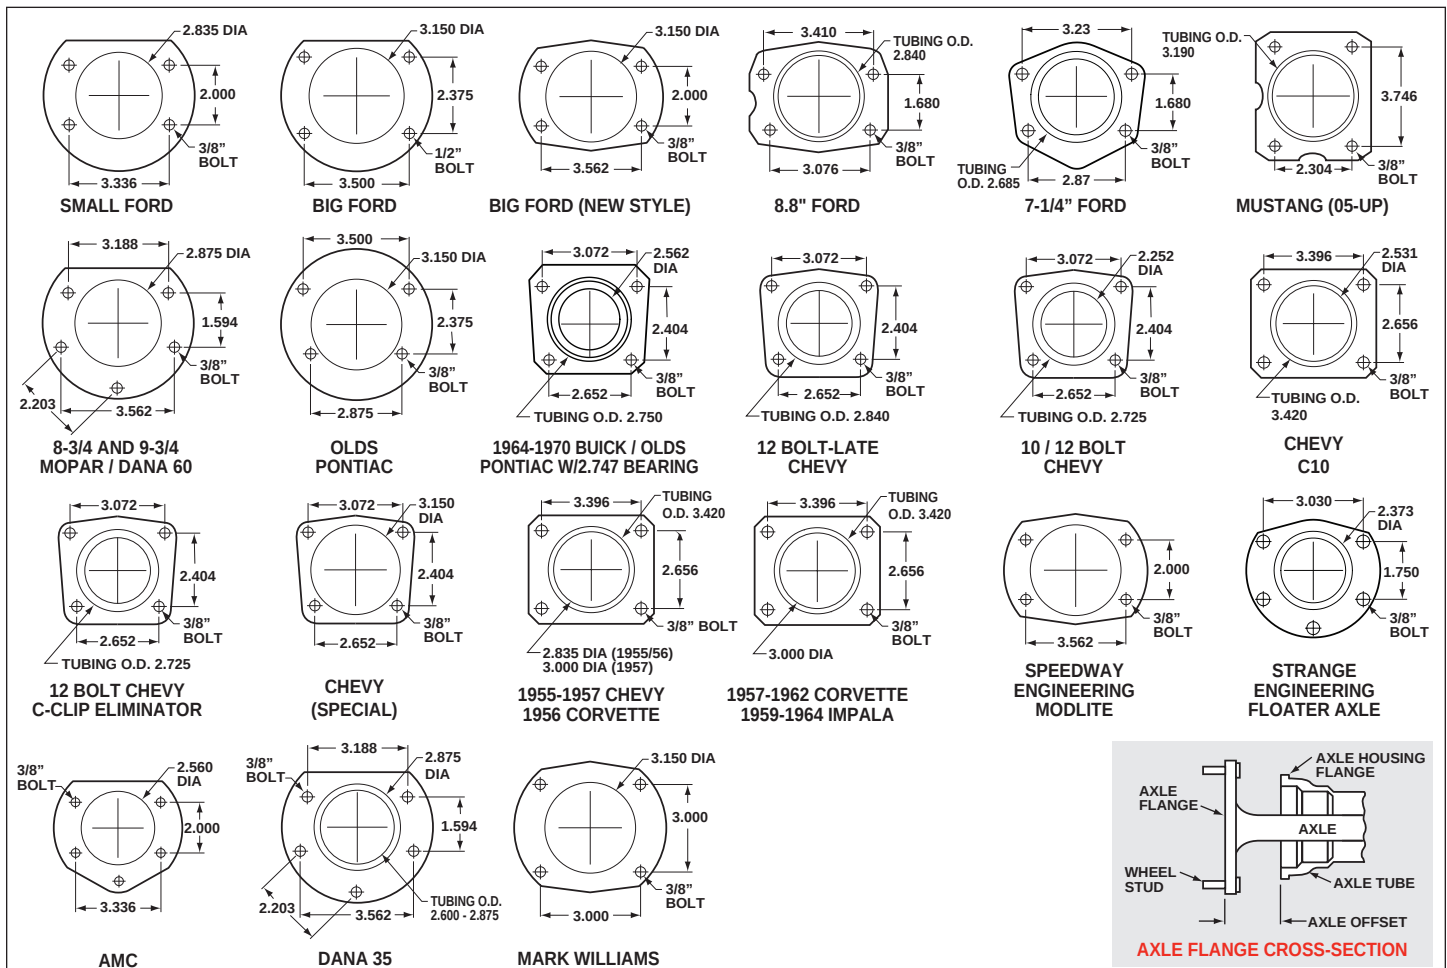

Figure 5. Rear Housing Flange Chart and Axle Flange / Offset Cross-Section
• Make sure this is the correct kit to fit the axle housing flange, not necessarily the rear end make. Many times aftermarket manufacturers put a different make of axle housing flange on the stock rear end housing (Figure 5). Example; Big Ford rear ends with Olds-Pontiac flanges, therefore, an Olds-Pontiac rear disc brake kit would be the correct kit to order. Also, shock clearance may be a problem. They may have to be modified and/or relocated to clear the Wilwood kit after final assembly.
- Dimension from wheel side of axle flange to wheel side of axle housing flange, "axle offset" (see Figure 5, lower right hand corner). This dimension is critical to ensure proper alignment of the rotor to the caliper, and should match offset given in the kit description. **NOTE:** Left side only; leave OEM shim stack in place against axle housing when measuring offset.